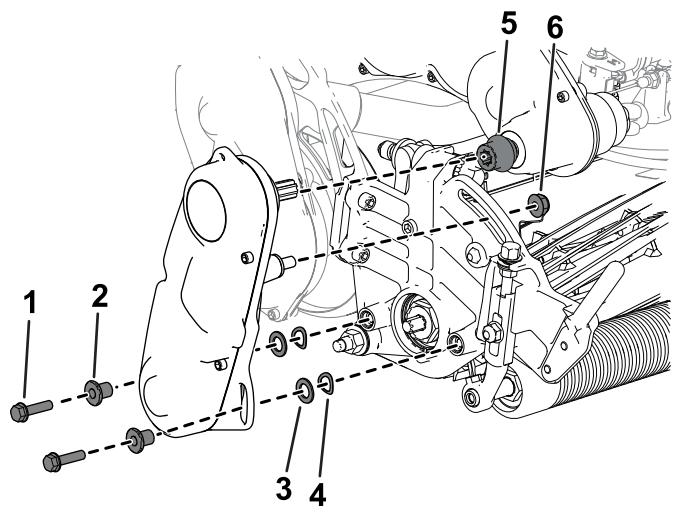

Figure 44
3. Remove the reel-drive assembly from the cutting unit (Figure 44) and retain the hardware.